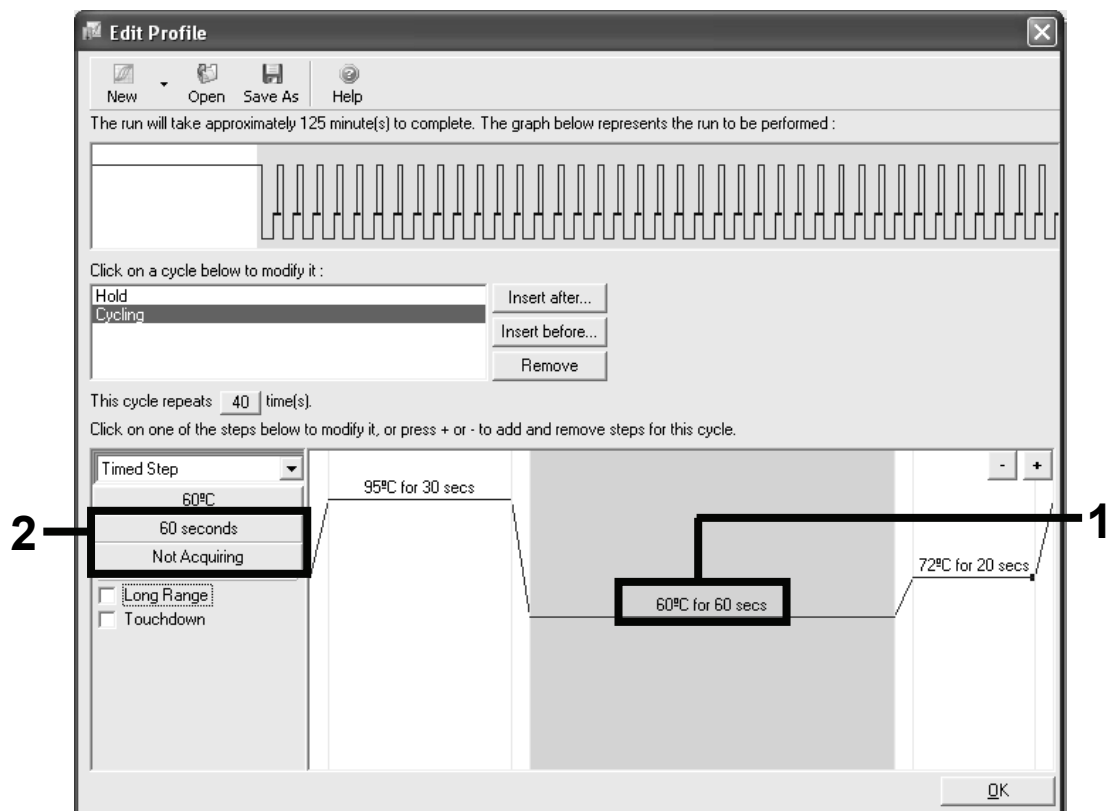

Figure 21. Cycling step at 60°C.
16. Highlight “60°C for 20 secs”. Set the time to 60 seconds. Select the “Not Acquiring” button (Figure 21).